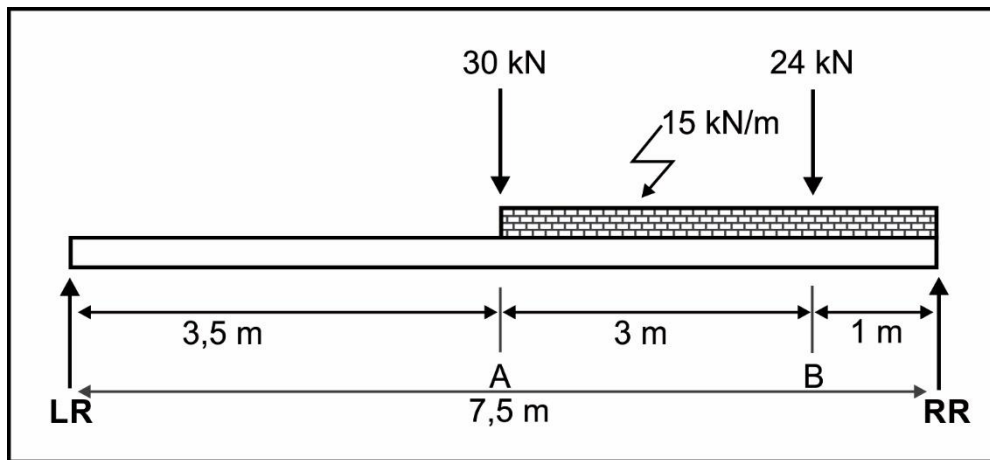

FIGURE 7.2
- 7.2 Figure 7.2 shows a beam in equilibrium that is subjected to two-point loads and a uniformly distributed load. It is supported at both points with LR and RR. Answer the questions that follow: